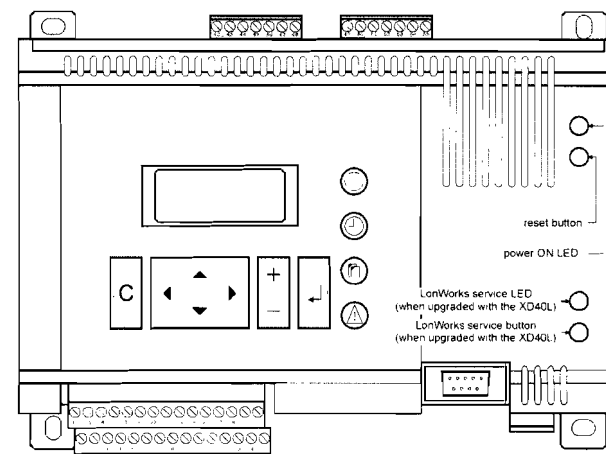

Fig. 2. The XL40A1MMI
- six analog inputs, four analog outputs, and eight digital inputs all arranged in a single, low-voltage, double-decker terminal block located at the left side of the front of the housing (see Fig. 2), and also